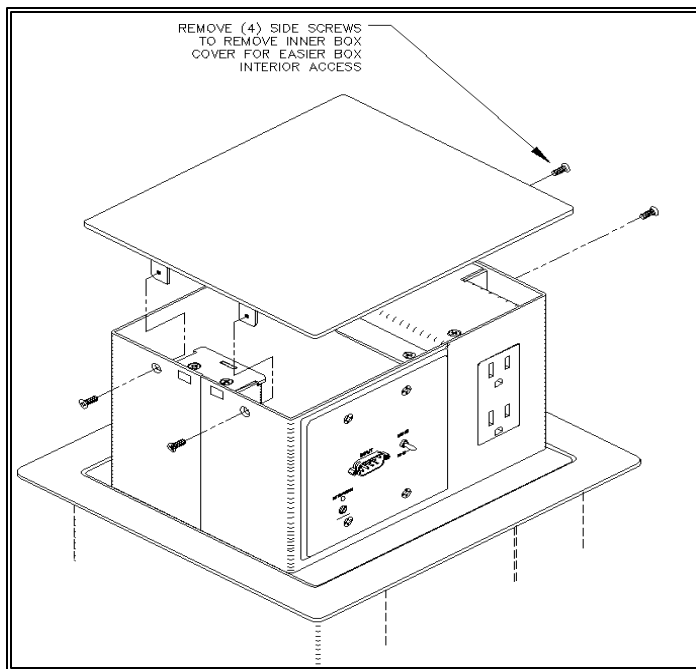

FIG 1
The PTB is mounted from the top of the table as shown in Fig. 1
Push down on tabletop box to release and access the connector panel. (Fig 1). The connector panel chassis will automatically ascend from the outer assembly and expose the connector plate openings for wiring and mounting the connector plates (not supplied). This customer-supplied plate must not contain high voltage. This space is designed for CLASS 2 devices only.
Remove the inner box cover side screws (4) (Fig. 1) to allow access to the PTB interior for wiring.